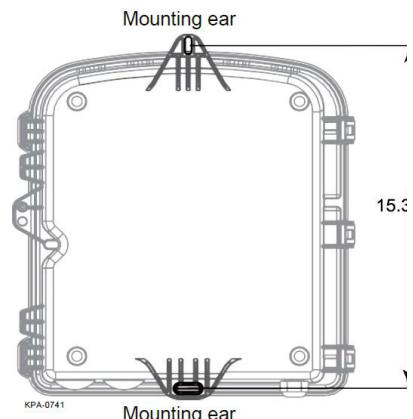

Figure 2
Step 2 Using the housing as a template (Figure 2), ensure the unit is square and mark the locations for the mounting hardware. Install appropriate anchors (not provided) to the surface to which the housing will be attached. Use shims (not provided) on uneven surfaces to ensure the housing is square and to prevent warpage. Place the unit on the mounting surface over previously determined mounting location.